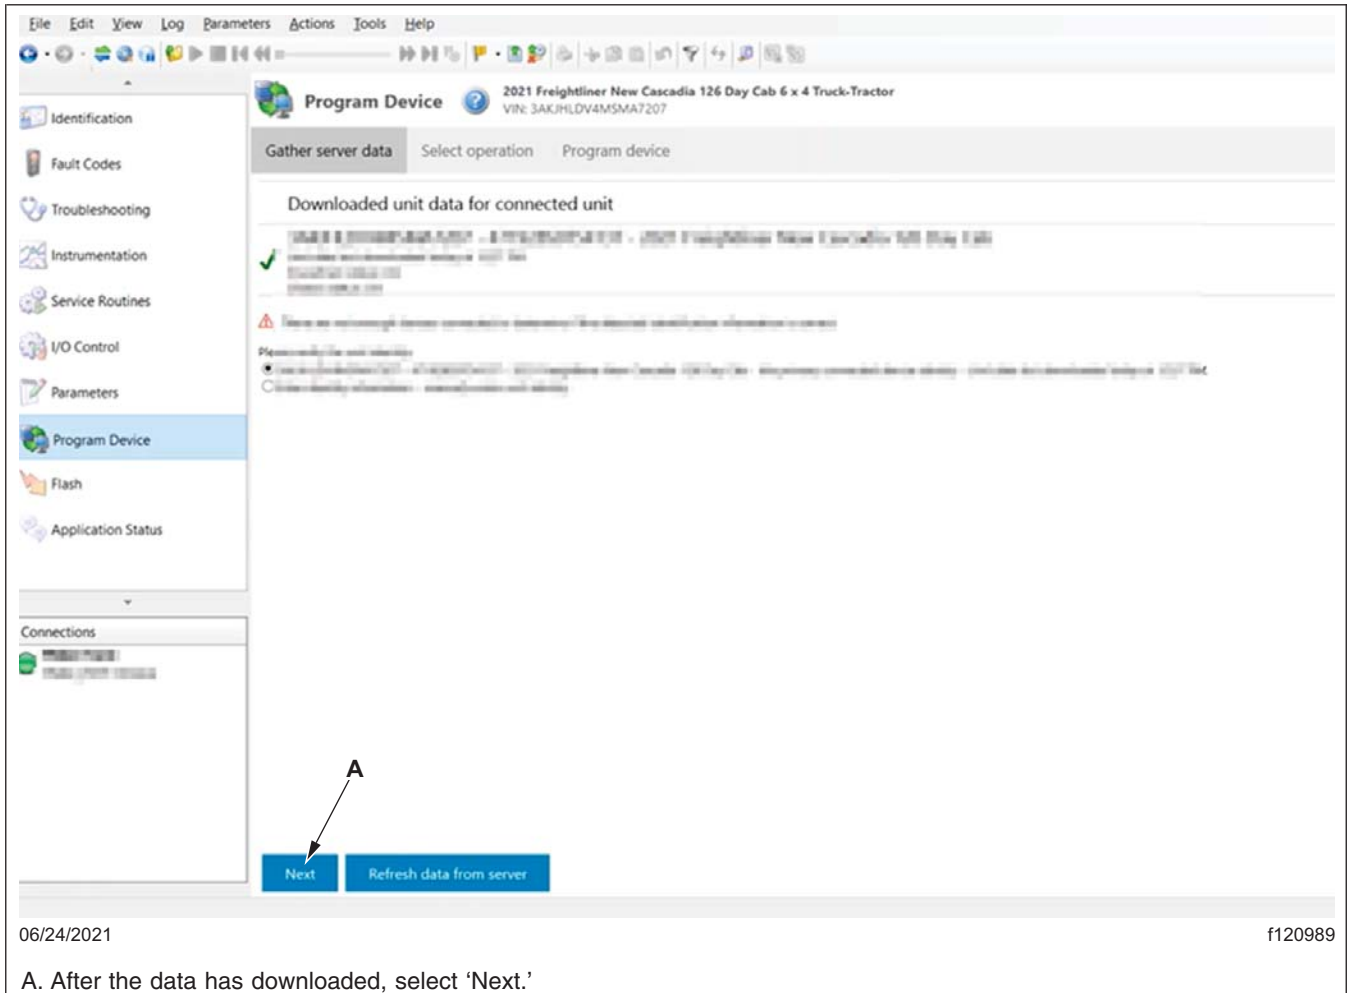

Fig. 3, Data Downloaded from Server
7. When the data has finished downloading, select 'Next.' See Fig. 3.